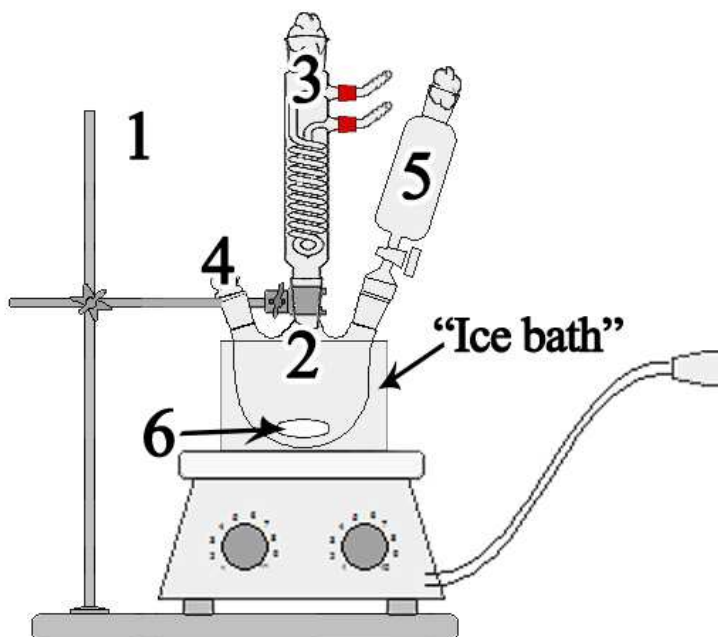

Fig. 1. Set up needed to implement Steps 1-4 of the synthesis. Refer to page 4-5 for the numbers
- *Apparatuses used in this task are shown in Fig. 1 and 2.*
**Step 1.** Clamp the three-necked flask on the laboratory stand on top of the hot-plate magnetic stirrer. (Fig.1). Apply the dropping funnel and the reflux condenser to the corresponding necks and put the big magnetic stir-bar into the flask through the open neck. Ask your lab assistant to switch on water supply in the reflux condenser (**Do not do it yourself!**). Transfer NBS quantitatively into the flask using spatula and big plastic funnel. Transfer ~15 mL of  $\text{CCl}_4$  into the 25 mL glass beaker. Pour ~2/3 of the solvent volume from the beaker into the flask. Shake the Catalyst and quantitatively add it through the same plastic funnel into the flask. Add the rest of the solvent from the beaker to the flask. Close the open neck with the stopper. Put the flask into the ice bath filled with water and ice to ~ 2/3 of its volume. Start stirring the mixture.